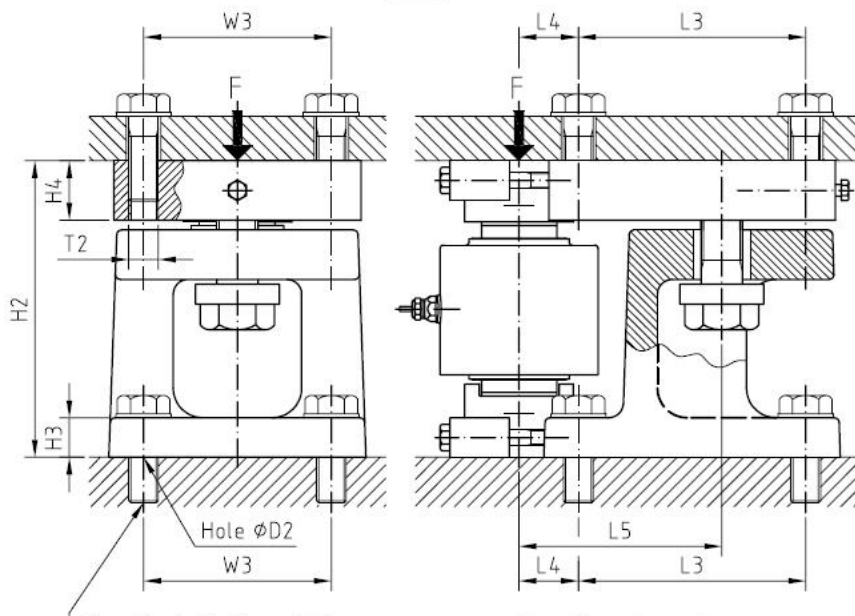

Figure 5:
4. All weighing modules are successively welded to the foundation and the load carrier (see Figure 3). Alternatively, also screwed (see Figure 5)